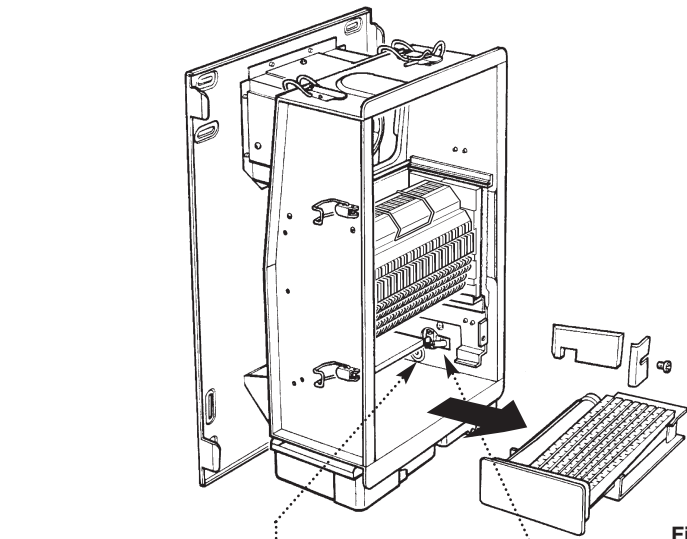

Fig. 124
### 10.10 Burner (Fig. 124)
1. Remove the right hand side insulation carrier bracket by releasing the screw. Remove the side insulation panel (Fig. 124).